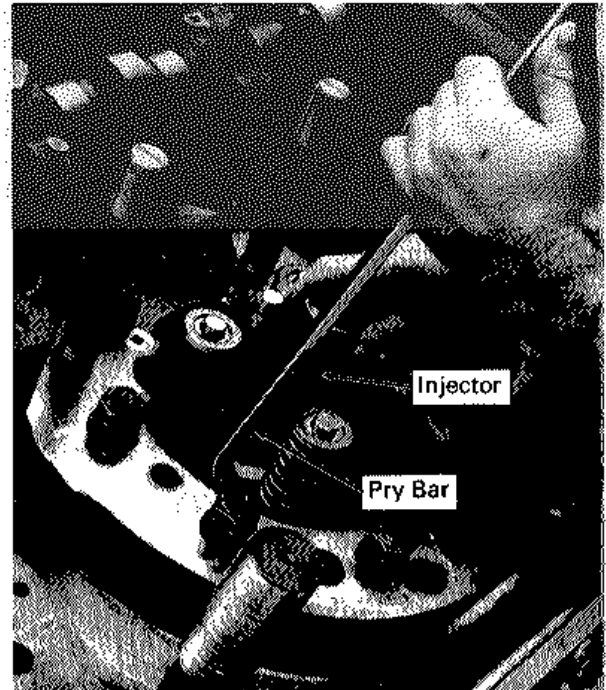

Fig. 5-4 - Removing Injector With Pry Bar
17. Using the injector pry bar, Fig. 5-4, remove the injector from the tapered well in the cylinder head. Protect the injector from dirt and damage by using an injector holding rack.